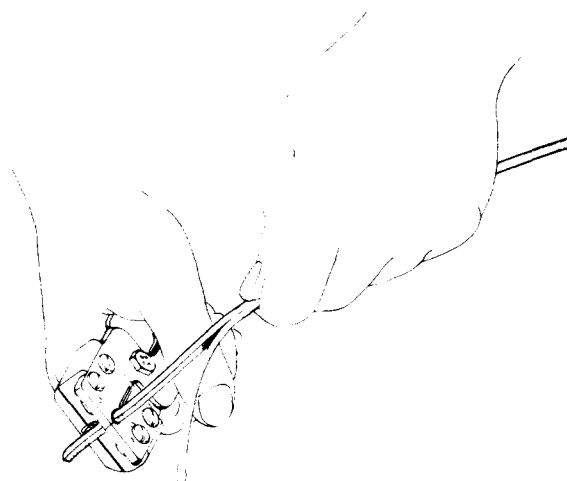

Fig. 3—Splicing C Rural Wire
3.02 To remove the insulation from conductor, place conductor in notch of stripping blades as shown in Fig. 3 and pull insulation from conductor. It may be necessary in some instances to rotate the wire splitter a half revolution in each direction to completely score insulation before pulling it off.